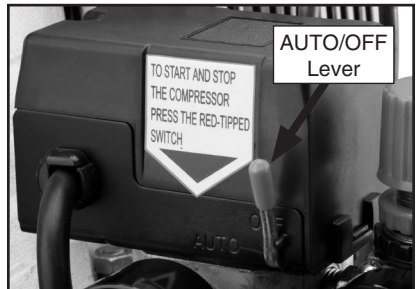

Figure 7. AUTO/OFF lever.
2. Make sure the compressor switch is in the OFF position (lever with red cap shown in **Figure 7**) before connecting to the power supply.